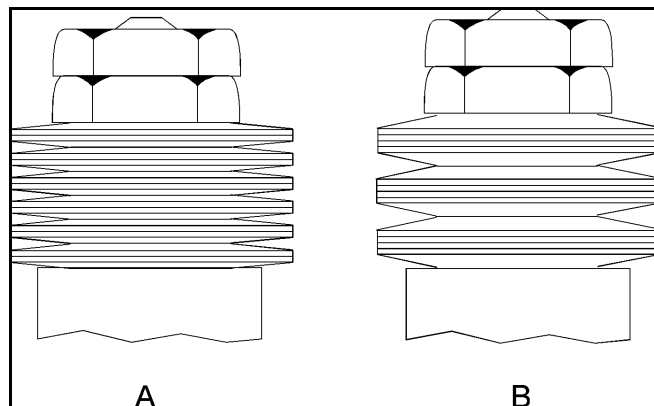

Figure 6— Washer Stacking for Different Valve Sizes
12. Position the spring washers as shown in Figure 6. The spring washers go on the cylinder end of the rack rod for spring to open applications and on the other end for spring to close cylinders.
14. Slide the spring washers onto the rack rod in the arrangement shown in Figure 6.